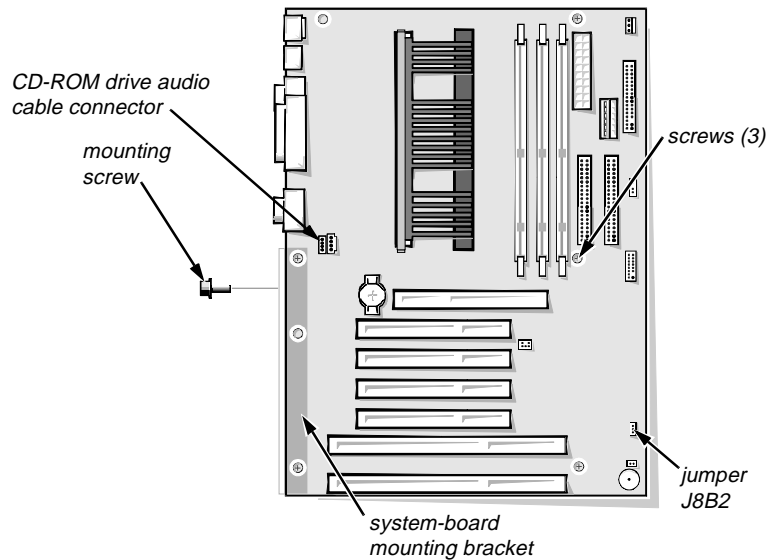
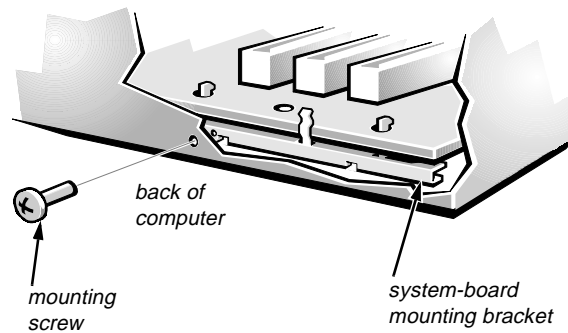

Figure 5. System Board Mountings (Three Screws)
Figure 6. Mounting Screw and Bracket
7. If the system board is secured to the chassis with three screws, remove the screws (see Figure 5). Then remove the board-mounting screw from the back of the computer (see Figure 6), and continue with step 8.